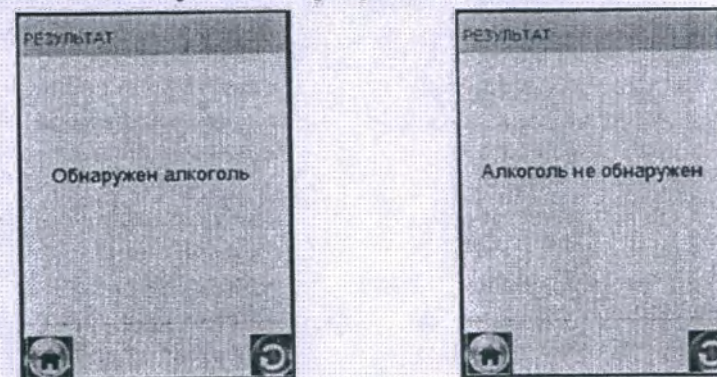

Figure 24 – Test results in screening mode
2.12.8 Depending on the test result, one of two messages appears on the analyzer screen (Figure 24).